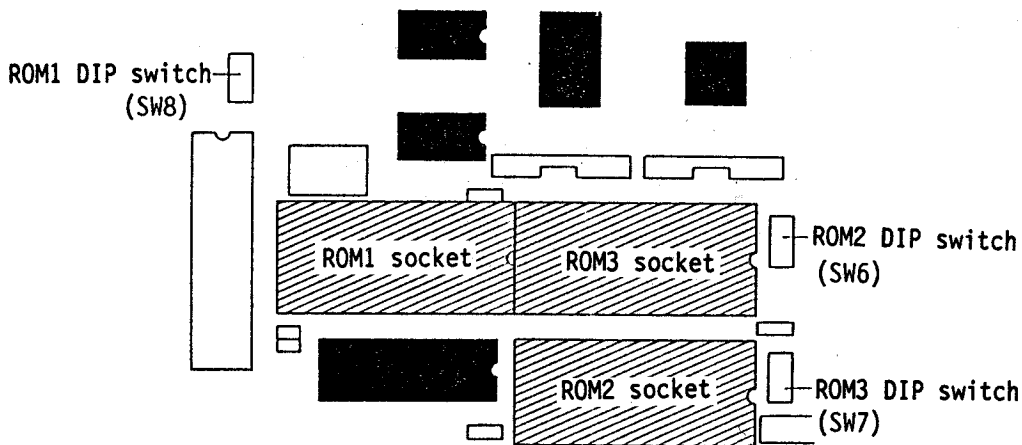
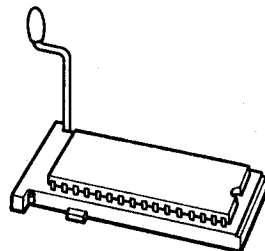

Fig. 2-1-8 Location of the ROM socket
Fig. 2-1-11
- ⑦ You will see three blue application ROM sockets, located just before the main PCB in the base unit (Fig. 2-1-8).
- ⑧ Lift up the lever of the ROM socket that you wish to mount an application ROM in.
- ⑨ Mount the ROM in the ROM socket. Be sure that the notch in the ROM chip is to the right, as indicated in Fig. 2-1-11. Take care that the pins are not bent or broken, and that all pins are mounted correctly in their holes (see note 2).